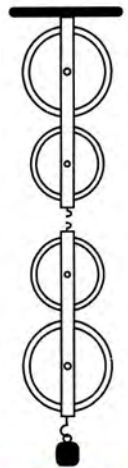

Fig. 3.33
7. Fig. 3.33 shows a system of four pulleys. The upper two pulleys are fixed and the lower two are movable.